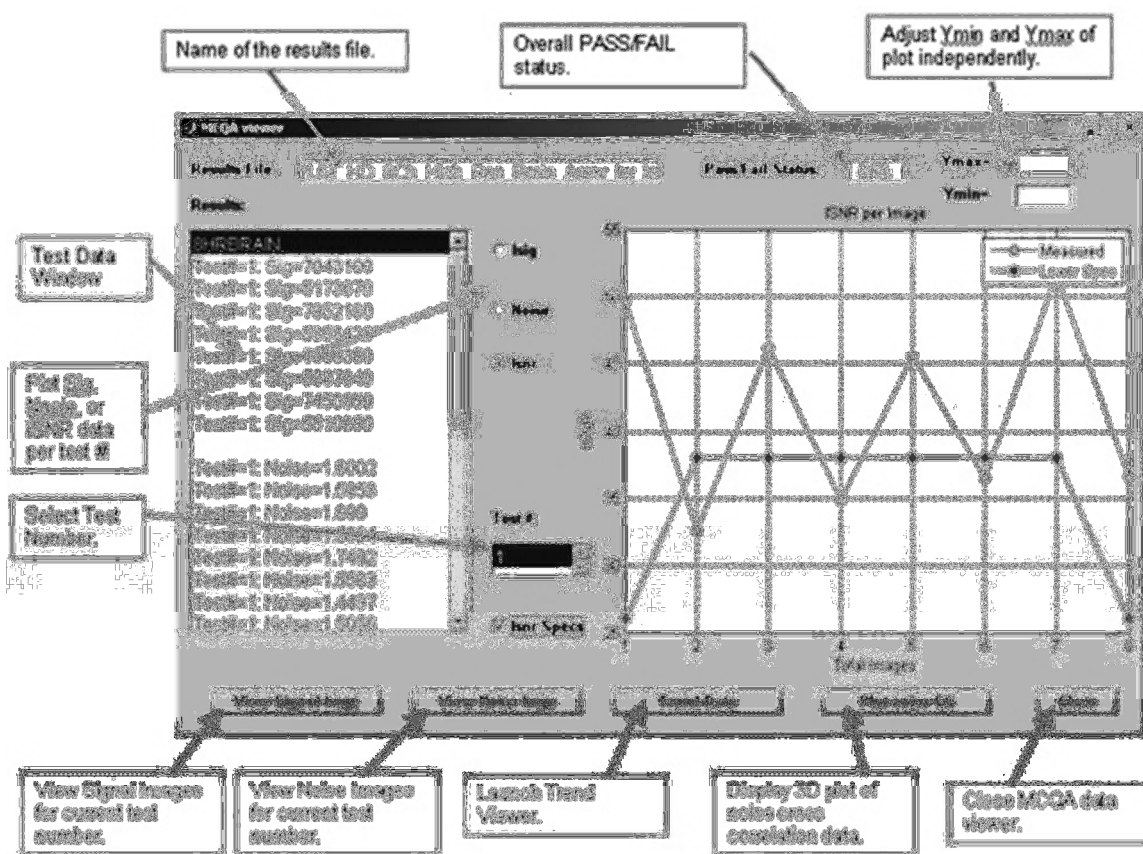

Figure 7
**Note:** The Results Viewer will open as shown in Figure 7. The Results file name and Pass/Fail Results shown on the tool GUI will also be listed across the top of the viewer.